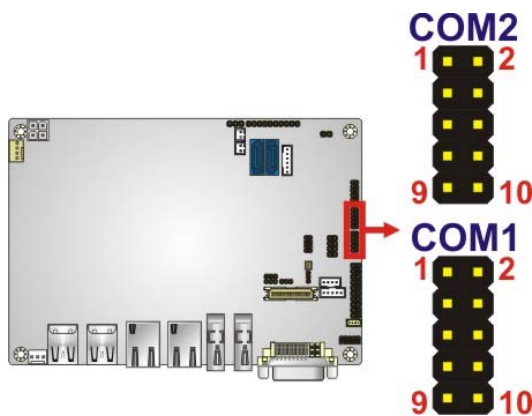

Figure 3-14: RS-232 Serial Port Connector Locations
- CN Location:** See **Figure 3-14**